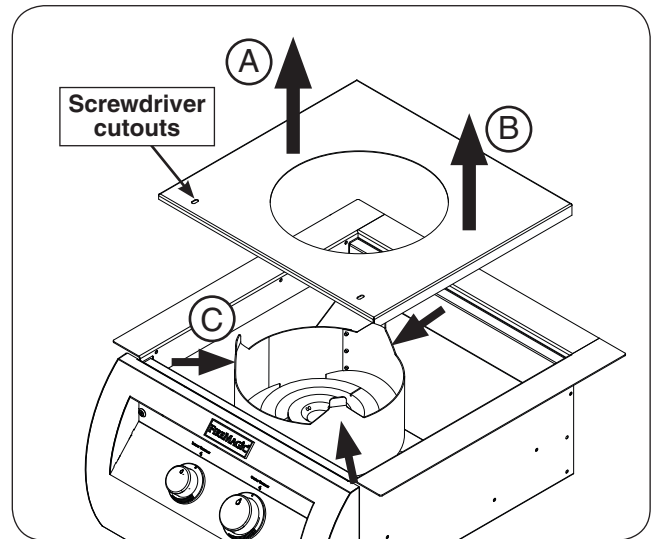

Fig. 34-1 Interior protection plate removal
2. Lift up the interior protection plate from the left side, then lift up from the right side (see Fig. 34-1, A and B).
3. While lifting the plate upward, flex the collimator inward to completely free the protection plate (see Fig. 34-1, C).